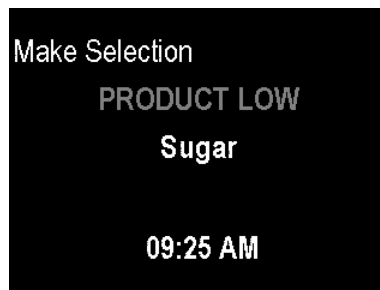
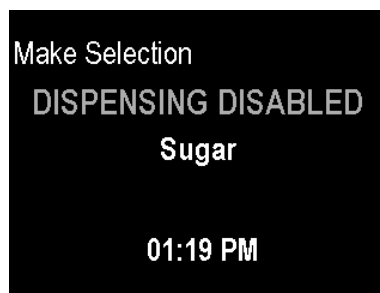

Figure 14: Product low indicator
Figure 15: Dispensing disabled indicator
- Flashing yellow – non-critical: `PRODUCT LOW` (Figure 14) or `DISPENSING DISABLED` (Figure 15). Solid yellow for `LOCKED`. For more information on product low, please refer to the instructions for filling the hopper in the `OPERATING THE DISPENSER` section of this manual. Dispensing becomes disabled when the door is open or the hopper lid is removed; the dispenser will not dispense for safety reasons. The button panel will be locked if the lock mode has been enabled.